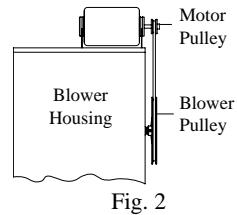

Fig. 2
- Motor pulley.** Install the motor pulley so that it aligns with the blower pulley (see Fig. 2) and tighten set screw. See page 3 for instructions on adjusting pulley.